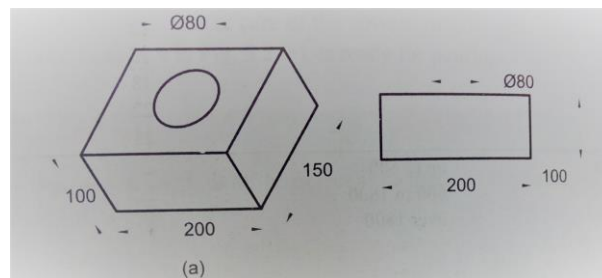

Fig.1
4. The casting shown in fig.1 is to be made in plain carbon steel using a wooden pattern. Assuming the shrinkage allowance as 21 mm/m, calculate the dimensions of the pattern